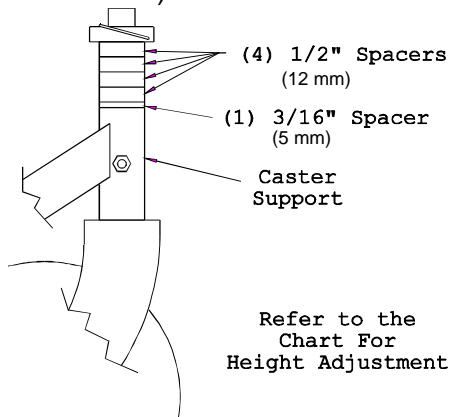
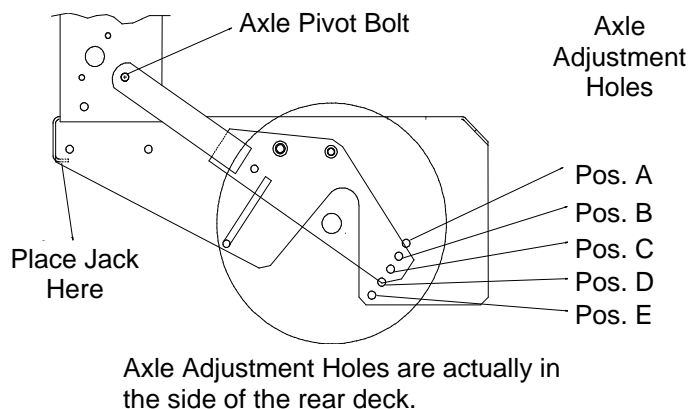

FIGURE 18
FIGURE 19
Desired cutting height range can be obtained by adjusting the rear axle and placing caster spacers above or below the caster arm (See Figures 18 and 19 along with the Cutting Height Adjustment Chart). **It may be necessary to readjust wheel drive and brake linkages.**
- d) Loosen but do not remove the two (2) axle pivot bolts and the two (2) axle adjustment bolts (See Figure 19).
- f) Raise the back end of the engine deck up enough to remove the two (2) axle adjustment bolts.
- g) With the jack, raise or lower the back end of the engine deck so that two (2) axle adjustment bolts can be reinstalled in desired hole location. A tapered punch can be used to help align the holes.
- h) Retighten all four (4) bolts, lower unit and remove jack.
- k) Adjust the caster spacers as directed in chart to match with the axle hole selected. (See Figure 18).